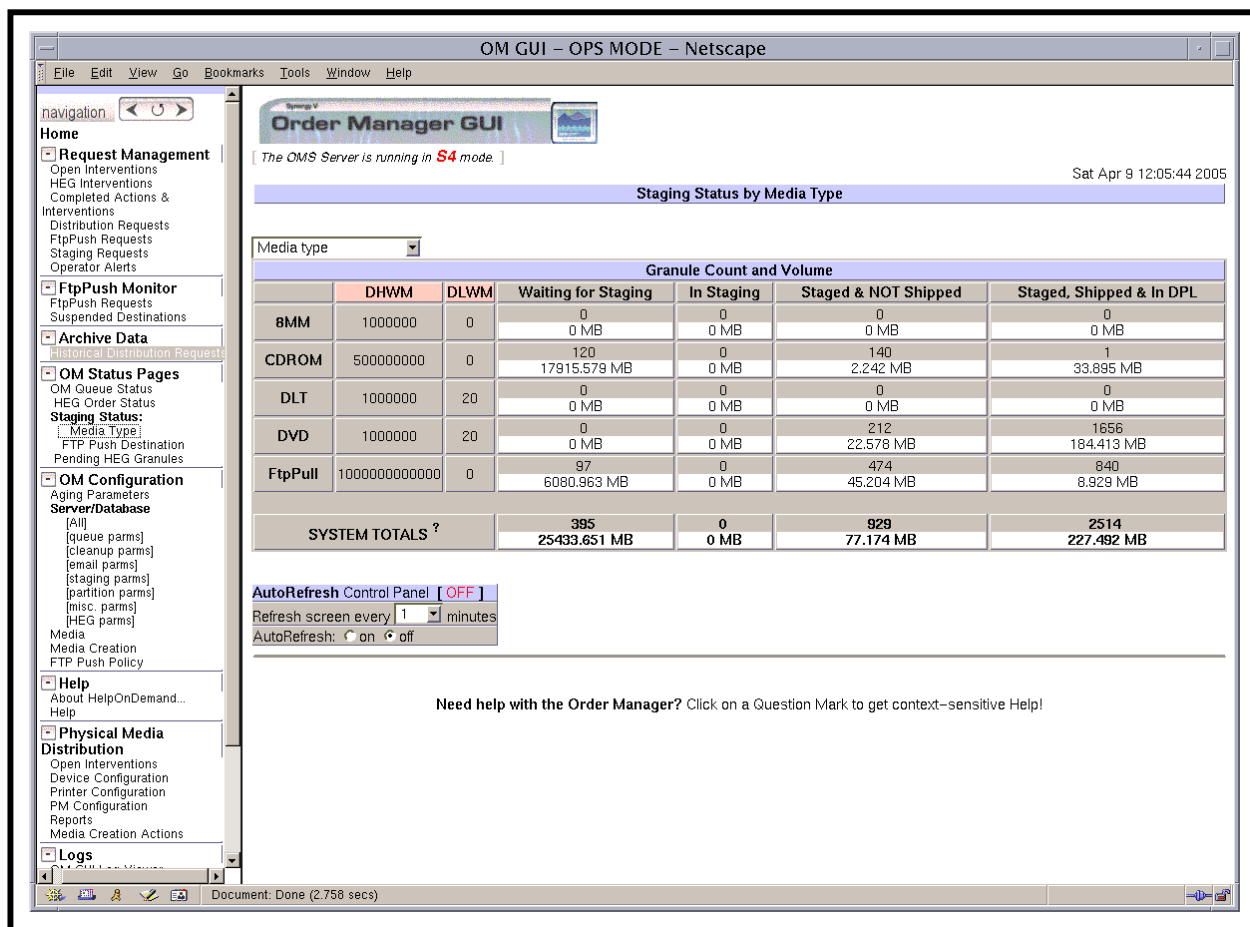

Figure 58. Staging Status by Media Type Page
- The **Staging Status by Media Type** page (Figure 58) is displayed.